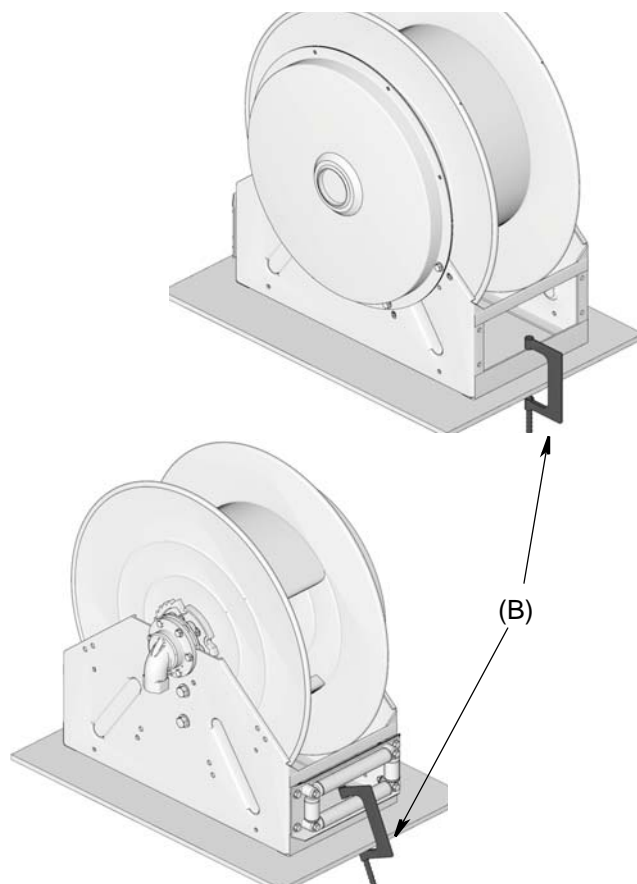

FIG. 5
1. If the hose reel is not installed in a fixed location, use 2, large c-clamps (B) (one on the front and one on the back) to secure the hose reel to a flat surface (FIG. 5). Graco recommends placing a rag over the bottom roller and the back frame to protect these surfaces from damage when the c-clamps are tightened down.